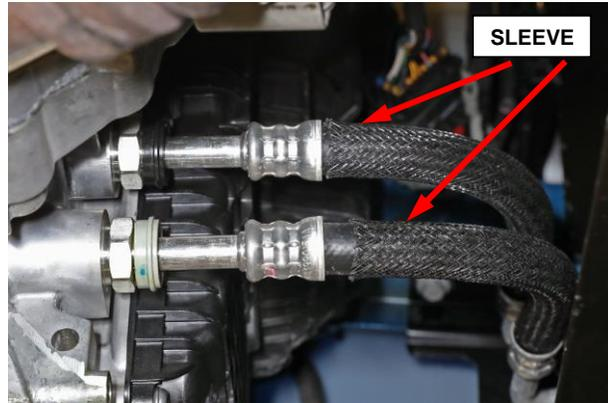

Figure 2 – Oil Cooler Line Sleeve
4. Slide protective sleeve aside on both hoses until timestamp is visible (Figure 2).